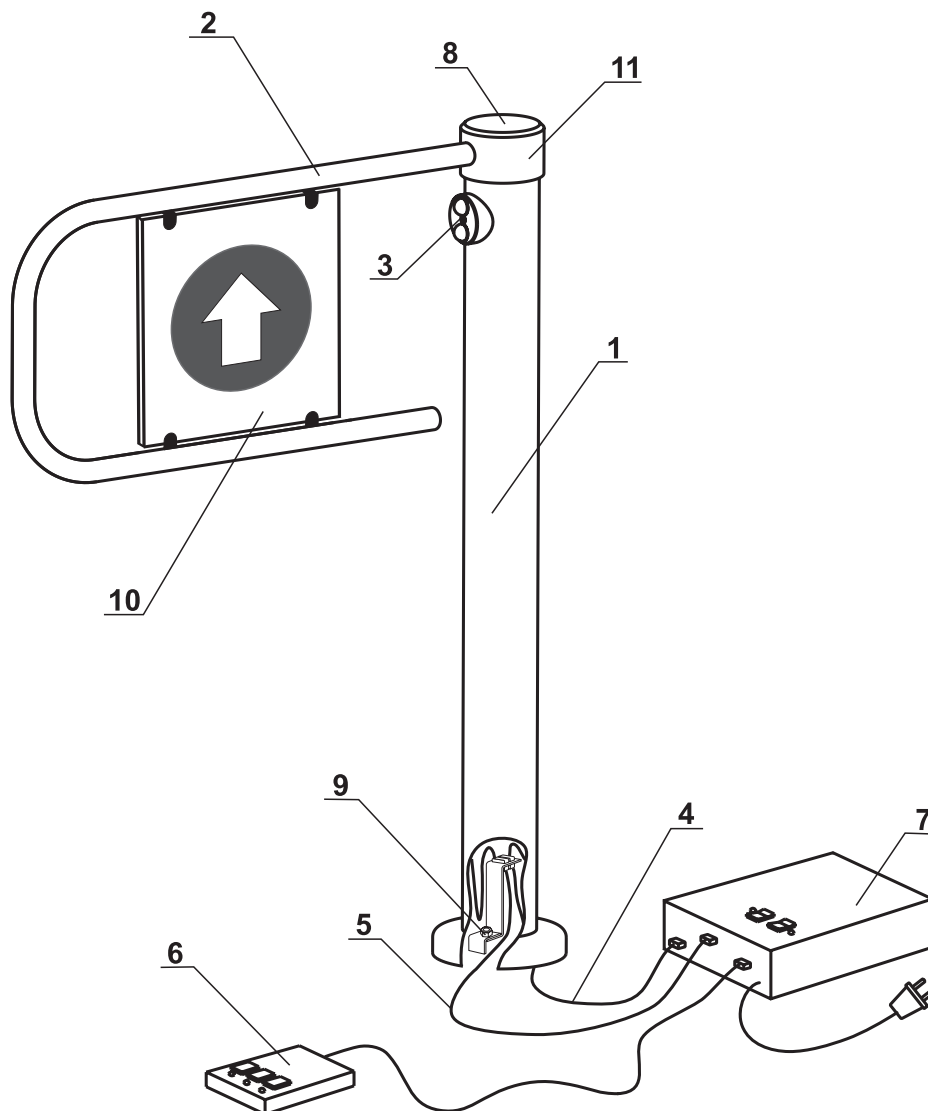

Figure 1. WHD-04 general view
5.2.1 Design of the wicket gate is shown in Figure 1. The numbers of the positions are given according to Figure 1 unless stated otherwise.